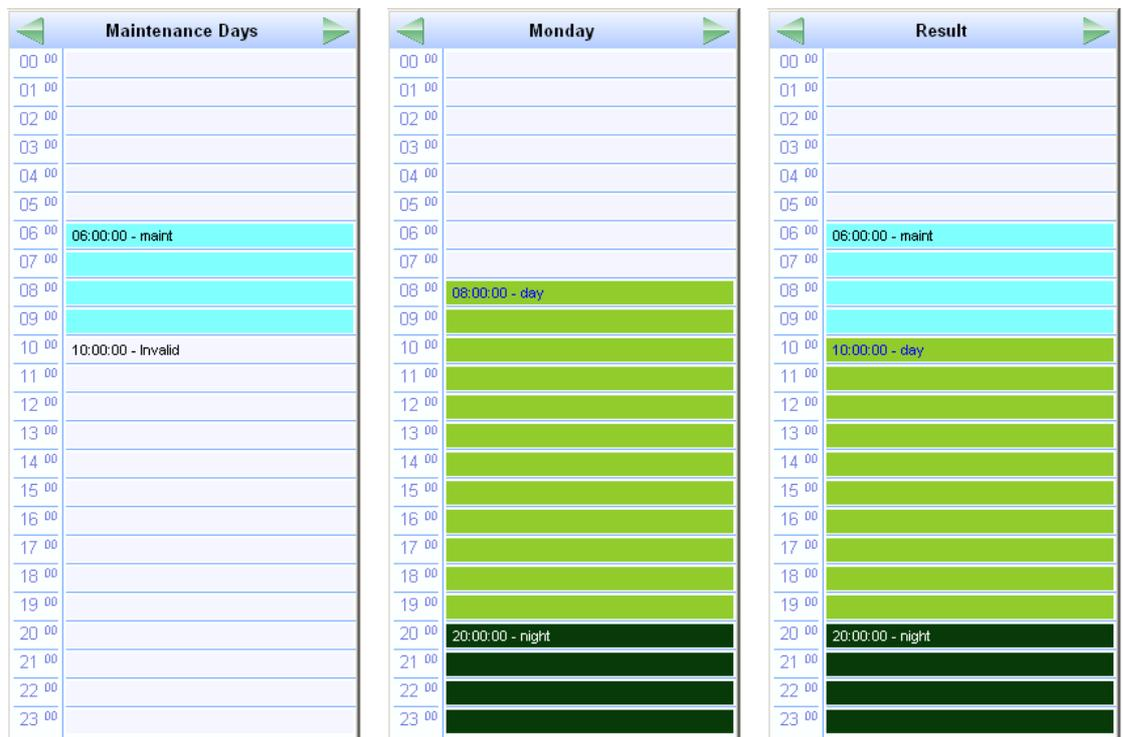

Figure 43: Example using withdraw in an exception schedule.
- **Withdraw:** If this value is scheduled, the scheduler takes the previously value preset out of effect. This means that the daily schedule with the next lower priority becomes effective. If no daily schedule with lower priority applies, the scheduler behaves as if it was disabled. Figure 43 presents an example of the *Maintenance* exception day, which schedules the *maint* value at 6 am and goes out of effect at 10 am. If the maintenance day falls on a Monday, the regular schedule for Monday will be overridden by the Maintenance schedule at 6 am and become effective again at 10 am sending the *day* value.